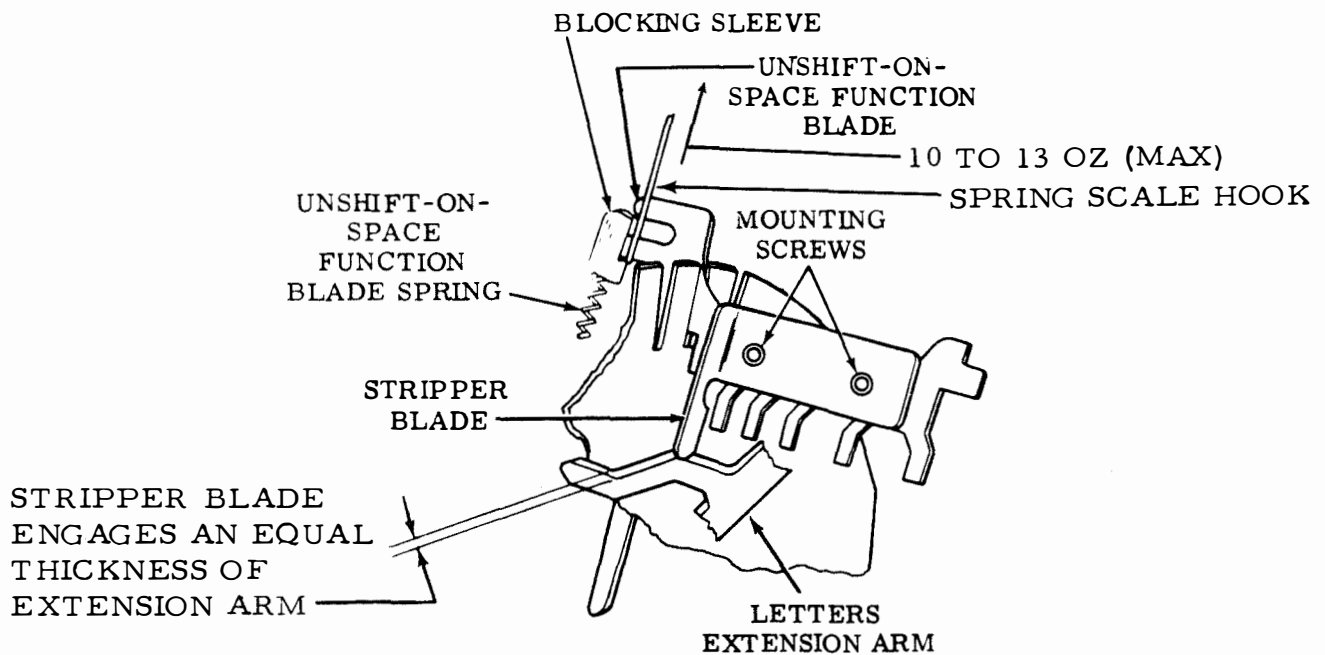

Figure 6-252. Unshift-On-Space Function Blade Spring - Left Side View
(2) Unshift-On-Space Function Blade Spring. Adjust as follows:
- (a) Refer to figure 6-252.